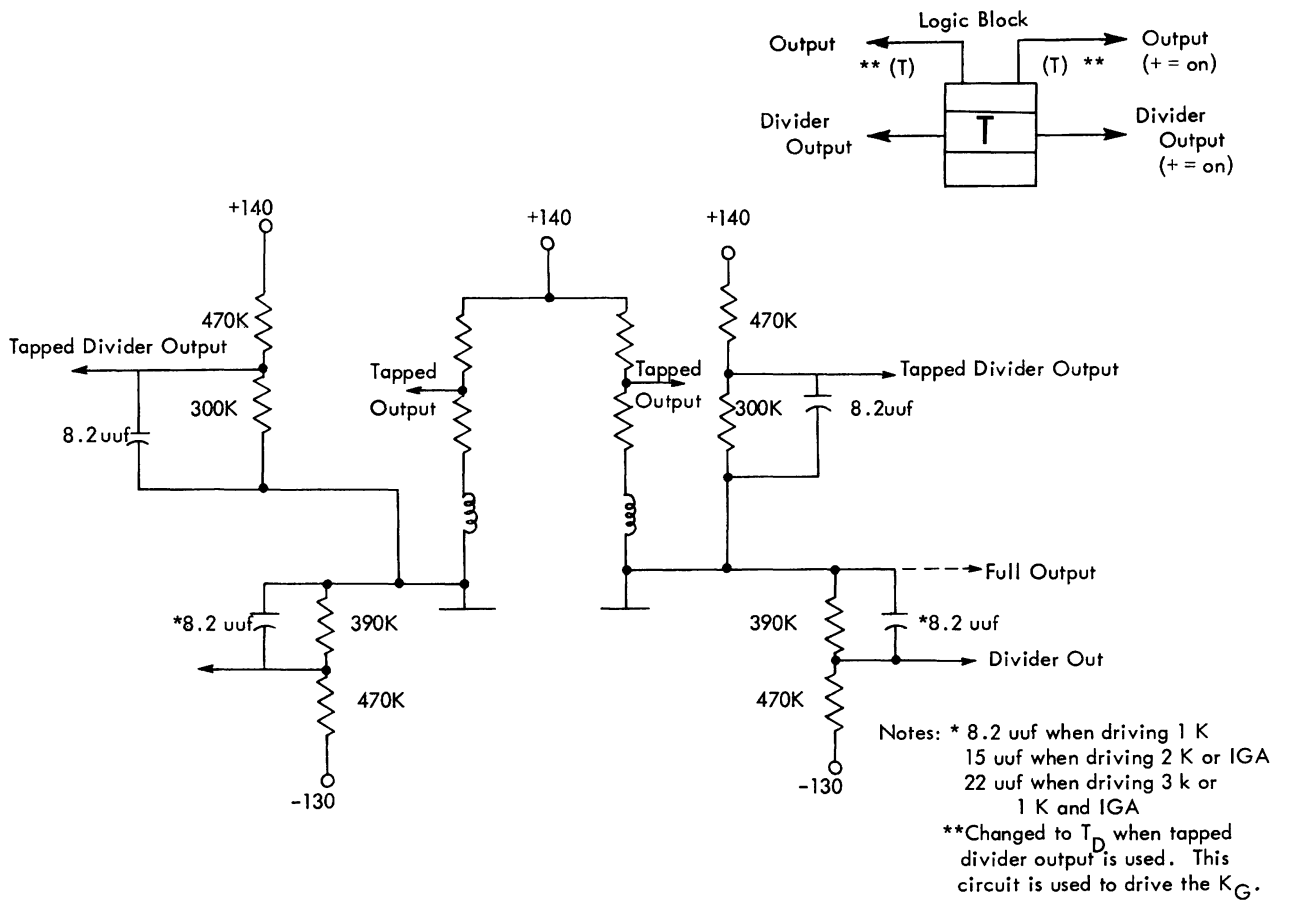

FIGURE A14. TRIGGER OUTPUTS
There are four types of outputs from a trigger (Figure A14). The full plate swing of either plate may be used, or the plate resistor may be tapped when a smaller swing is needed. Generally, this tapped output is used for feeding binary inputs of other triggers. A standard signal level may be obtained from a voltage divider connected to either plate. If the divider is not used, it is not wired into the circuit. When driving a plate-level cathode-follower  $K_G$  (702-705 components only), a special divider from the trigger plate to +140 volts is used. The output of this tapped divider (TD) is about the same as the tapped plate.